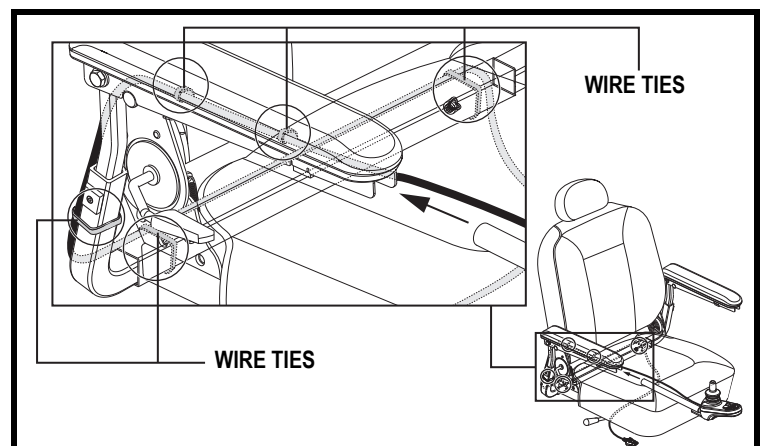

Figure 7. Controller Harness Routing
10. Route the controller harness along the seat frame and secure with wire ties. See **figure 7**.